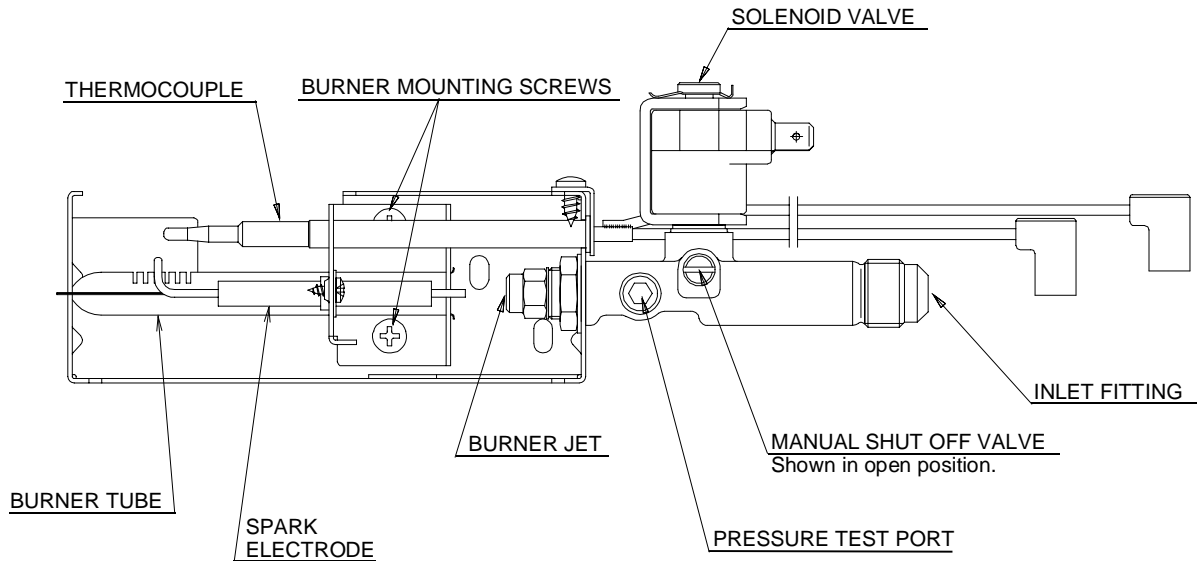

FIG. 14
- D. The LP gas pressure should be checked and the main regulator re-adjusted if pressure is incorrect. The correct operating pressure is 11 inches of water column. The correct place to take the LP gas pressure is at the test port just ahead of the burner jet. (See FIG. 14).
6. Remove the burner mounting screws and remove the burner assembly. (See FIG. 14).